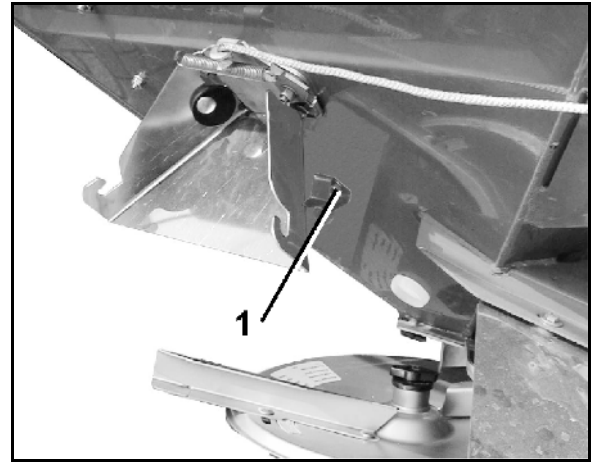
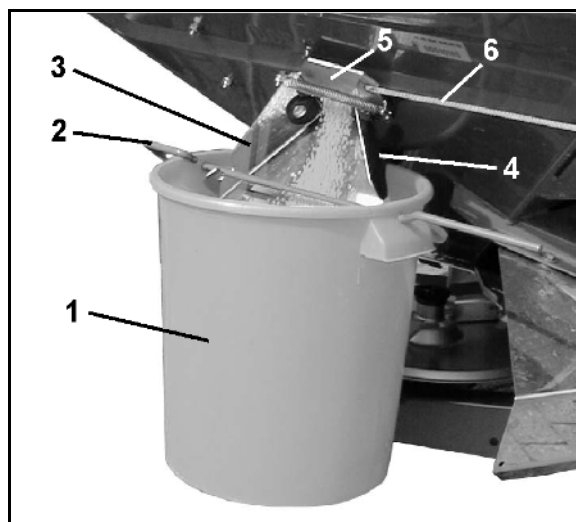

Fig. 68
Fig. 70
1. Hook the collection bucket (Fig. 70/1) with the bracket (Fig. 70/2) on to the outlet chute (Fig. 70/3). Engage the collection bucket in the clamping device (Fig. 70/4 and Fig. 68/1).
2. Open the lateral slider (Fig. 70/5) of the discharge chute fully for approx. 5 sec. with the rope (Fig. 70/6) – this ensures a uniform flow of fertiliser. Afterwards, pour back the collected fertiliser into the spreader.